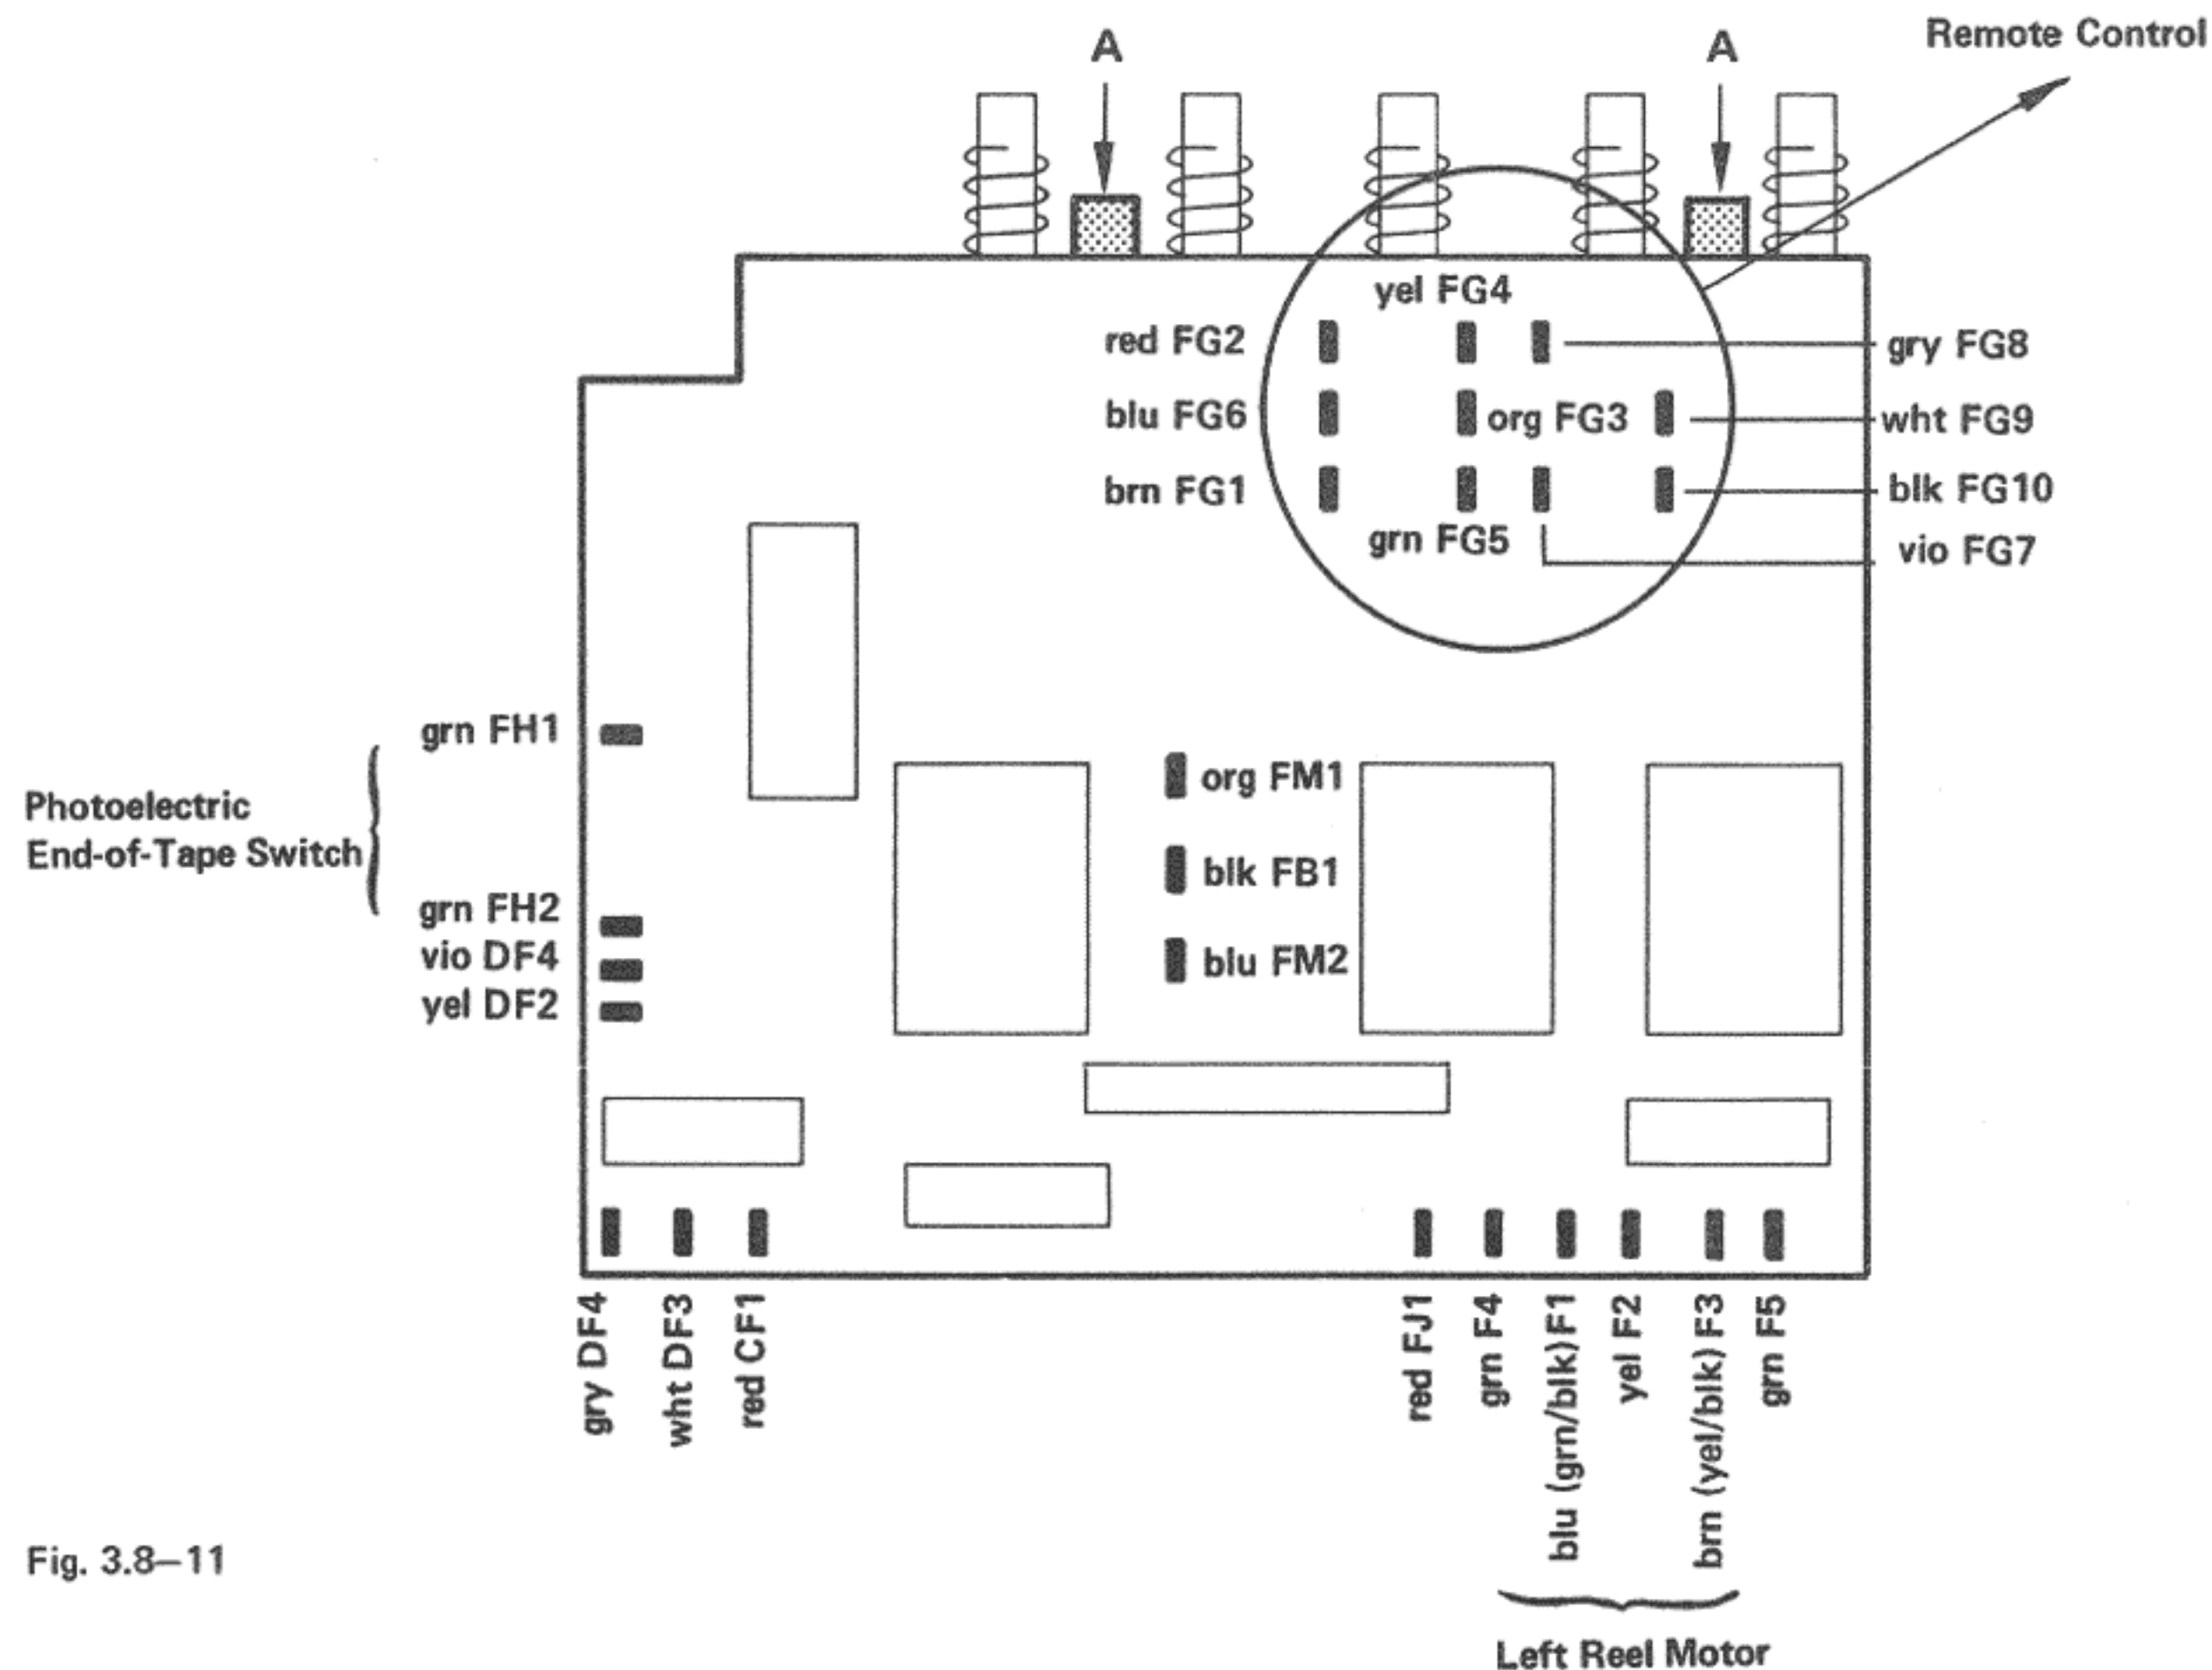

Fig. 3.8-11
- Undo screws A( fig. 3.8-11). Pull control board downward.